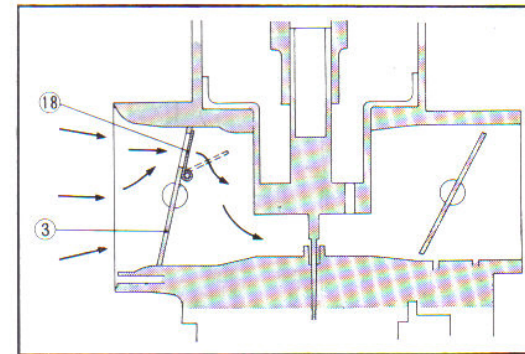

Fig. 3.128 Relief valve
Thus, fully opening the choke valve (3), warm-up operation can be continued. (Fig. 3.128)